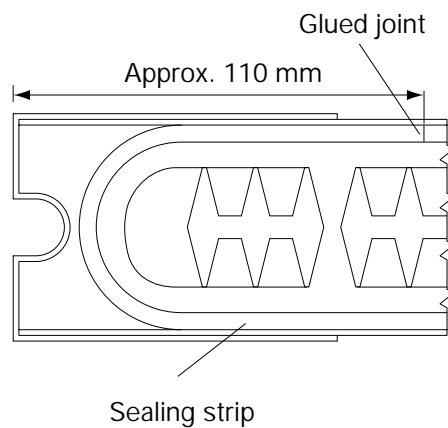

Figure 16
5. The joint of the sealing strip should be located on the long side of the filter element (Fig. 16 below).